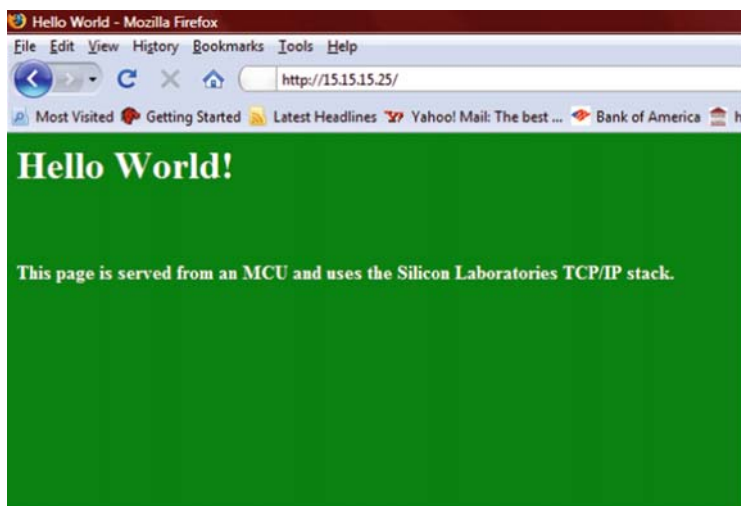

Fig. 8.15 Default web page for our project
16. Once the IP address is assigned, open your web browser and navigate to the address. You should see the default web page which is the same as the one from the earlier example when we were testing the hardware and software. See Figure 8.15.